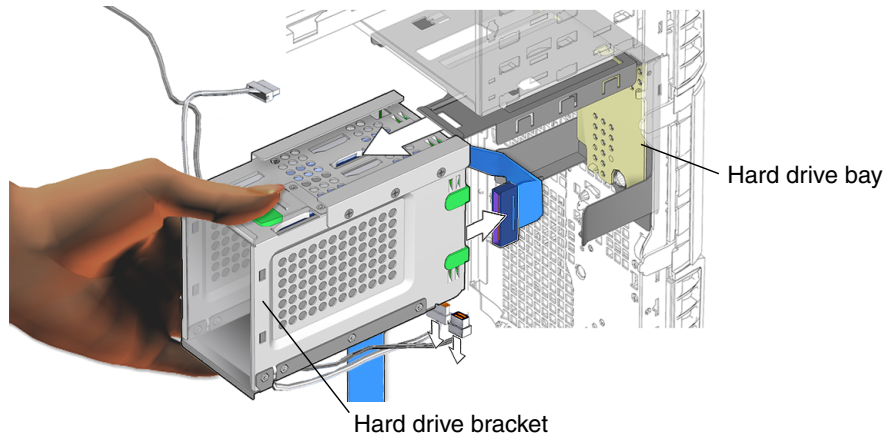

FIGURE 13-31 Installing the Hard Drive Bracket Into the Hard Drive Bay
9. Slide the hard drive bracket into the hard drive bay until the latch clicks (FIGURE 13-31).